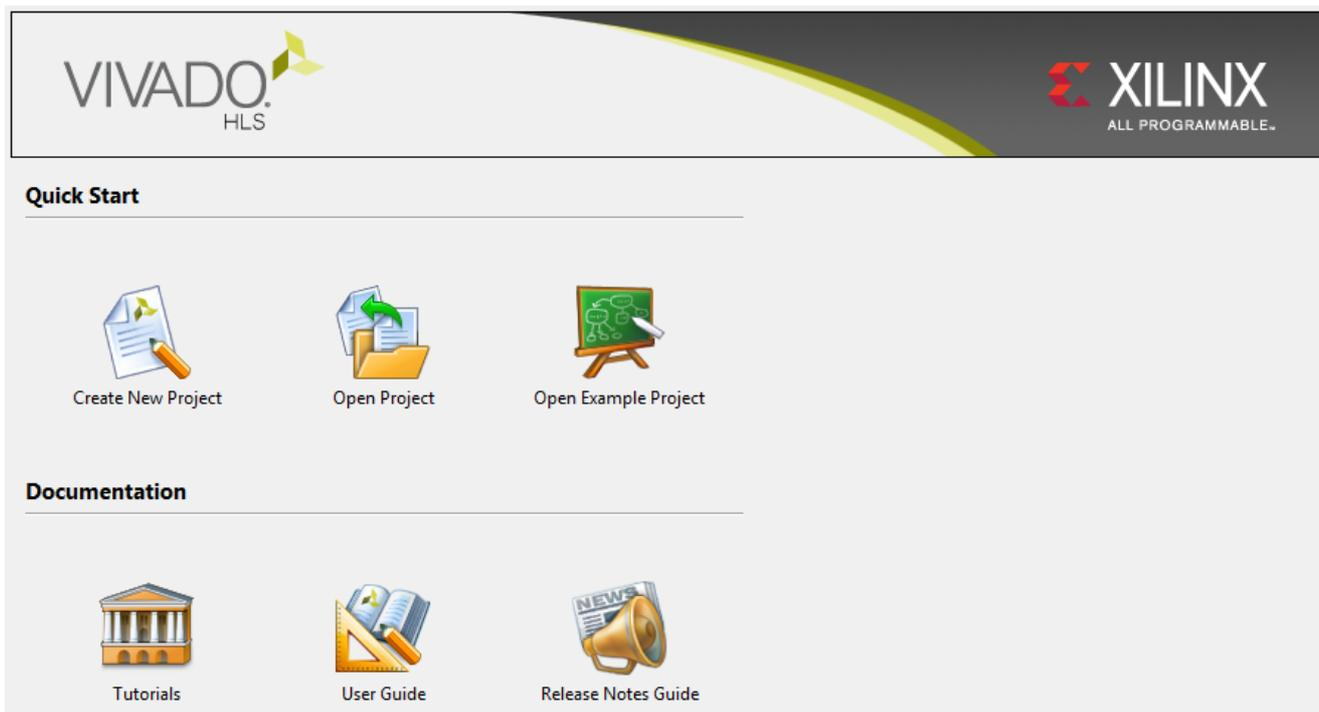

Figure 4.31: Vivado HLS Getting Started screen
- (b) When Vivado HLS loads, you will be presented with the *Getting Started* screen, as in Figure 4.31.